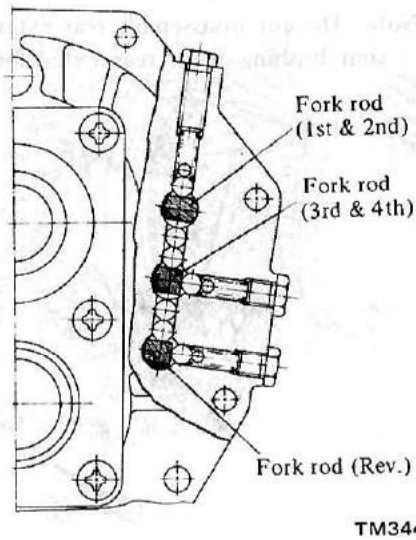

Fig. TM-12 Layout of check ball and interlock ball
2. Remove three(3) check ball plugs, and drive out fork rods from adapter plate by lightly tapping on the front end.
Be careful not to lose three(3) check balls and four(4) interlock balls. See Figure TM-12.